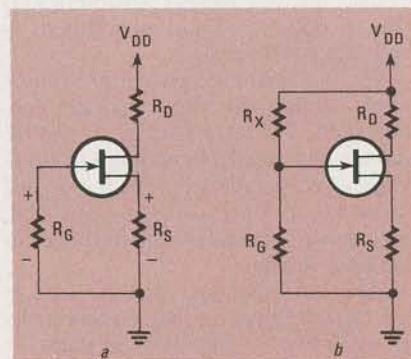

FIG. 8—EITHER OF THESE CIRCUITS can be used when biasing either JFET's or MOSFET's.
the source of a JFET, up to +0.5 volt may be placed at the gate. Two arrangements used for establishing the proper bias voltage are shown in Fig. 8.
In Fig. 8-a, drain current, I_D , flows through R_D and R_S . Thus, the source current, I_S , and I_D are equal to each other. A voltage equal to $I_D R_S$ is developed across R_S . That voltage is called V_{RS} and has the polarity shown.
A leakage current, I_{GSS} , flows from the gate to the source. The value of I_{GSS} at 25°C is often found on the specification sheets of the device. That leakage current, however, increases with temperature—usually doubling with each increase of 10°C. The leakage current flows through R_G , developing a voltage, V_{RG} equal to $I_{GSS} R_G$. The polarity of that voltage is also shown in Fig. 8-a.
Voltage between the gate and source is equal to $V_{RS} - V_{RG}$. The value of V_{RS} is usually adjusted to be larger than the value of V_{RG} so that the gate will be biased negative with respect to the source. That's how the bias for the circuit shown in Fig. 8-a is established.
A larger source resistor can be used with the circuit shown in Fig. 8-b. In that circuit, a sizable positive voltage can be developed across R_G due to the presence of $+V_{DD}$ and the action of the voltage divider made up of resistors R_X and R_G . That positive voltage is increased somewhat by the presence of leakage current I_{GSS} . To determine the gate-to-source bias voltage, subtract the voltage de-
The circuits we used to bias the JFET, shown in Fig. 8, can also be used for biasing MOSFET's. There is one additional consideration, however. Some MOSFET's have a lead from the substrate. If that should be the case connect that lead to the source of the transistor.
For a specific V_{DS} , calculating the values for the circuit shown in Fig. 8-a is relatively easy if you follow these steps.
4. Calculate R_S . For the circuit shown in Fig. 8-a, it is equal to V_{GS}/I_D .
The design procedure is somewhat more complex when working on the bias network for the circuit shown in Fig. 8-b. Here, the bias voltage is the sum of the voltage across R_S , as just determined, and the voltage across R_G . If the voltage across R_G is to be positive with respect to ground, the voltage across the resistor can